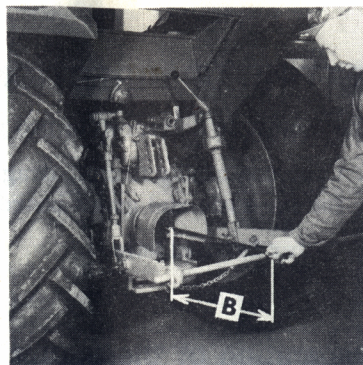

Fig. 2
- Lower the lifting arms level with the power take-off shaft, Fig. 2.
- Measure the distance between the holes in the lower links and the power take-off shaft, dimension B in Fig. 2, and make a note of it.